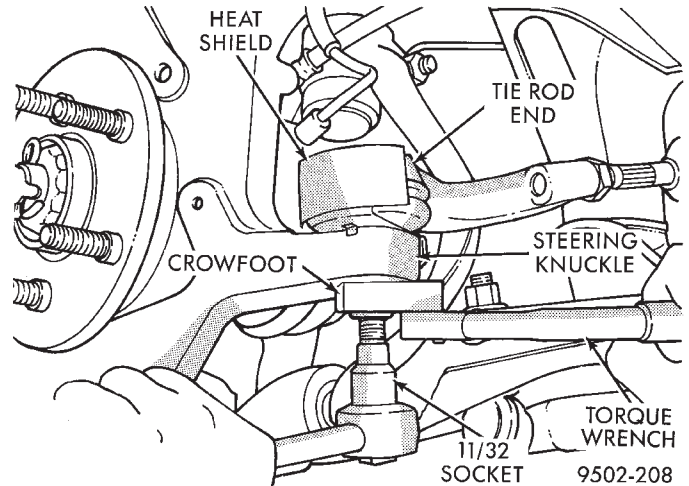
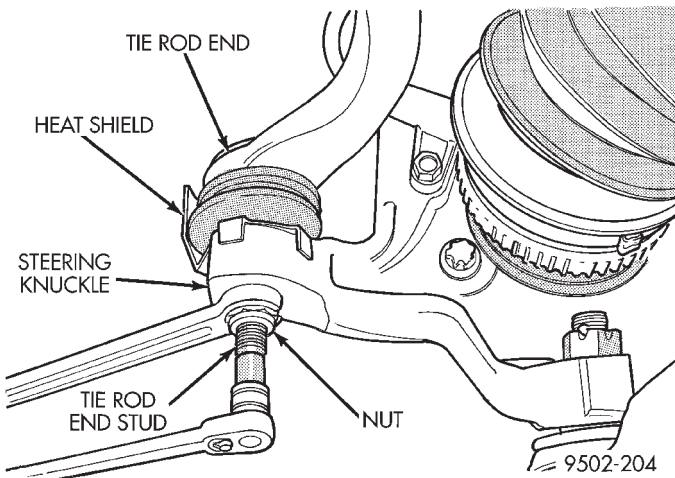

Fig. 20 Torquing Tie Rod End Nut
Fig. 19 Installing Tie Rod End Nut
(9) Install tie rod end into the steering knuckle. Start tie rod end to steering knuckle nut onto stud of tie rod end. While holding stud of tie rod end stationary (Fig. 19), tighten tie rod end to steering knuckle nut. Using a crowfoot and 11/32 socket, tighten the nut to 61 N·m (45 ft. lbs.) (Fig. 20).
(10) Install braking disc back on hub and bearing assembly.
(11) Install disc brake caliper assembly on steering knuckle. Caliper is installed by first sliding top of caliper under top abutment on steering knuckle.